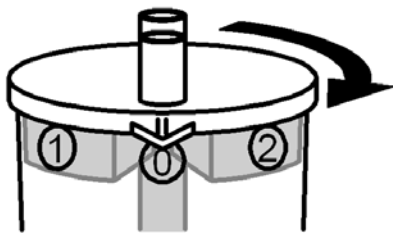

Fig. 2
- Rotate jar to align arrow on lid with any open ("0") position for normal suctioning (Fig.2).